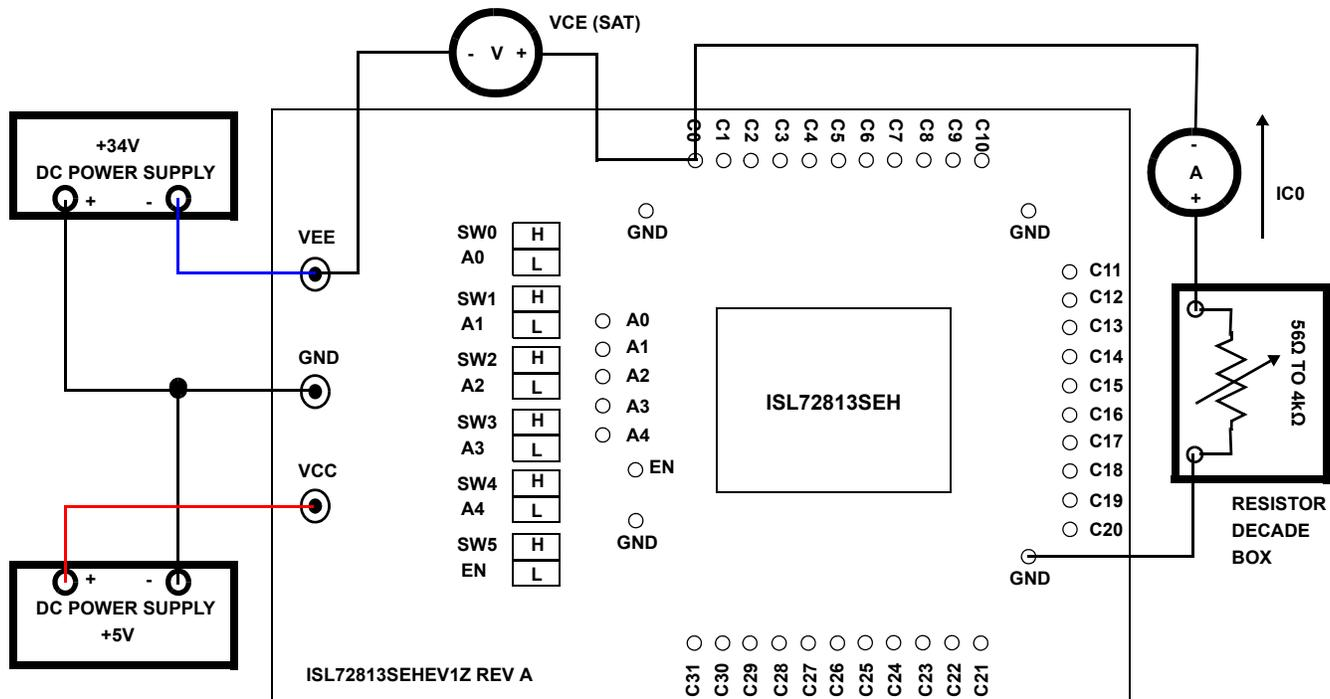

FIGURE 2. BASIC EVALUATION TEST SETUP BLOCK DIAGRAM (MEASURING VCE (SAT) vs ICx)
Refer to Figure 2.
3. Attach the 5VDC power supply to the banana jacks labeled VCC and GND as shown in Figure 2. Positive terminal at VCC and negative terminal at GND. The supply should be capable of delivering 3V to 5.5V and 100mA of current. Set the supply voltage to 5V.
4. Attach the 34VDC power supply to the banana jacks labeled VEE and GND as shown in Figure 2. Negative terminal at VEE and Positive terminal at GND. The supply should be capable of -10V to -34V and sinking 1A of current. Set the supply voltage to 34V.
5. Connect the resistor decade box and ammeter (A) to the C0 pin on the evaluation board as shown in Figure 2. One end of the decade box resistor should be connected to the C0 pin through the ammeter to measure the IC0 current. The other end of the resistor to the ground pin on the evaluation board. Set the decade box resistance to 165Ω.
6. Connect a voltmeter (V) between the C0 pin and VEE banana jack as shown in Figure 2. The voltmeter will measure the VCE (SAT) voltage.